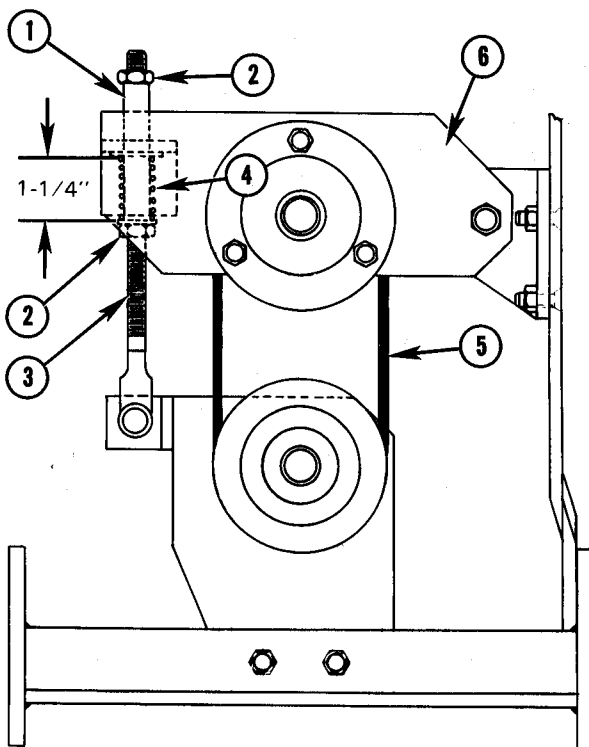
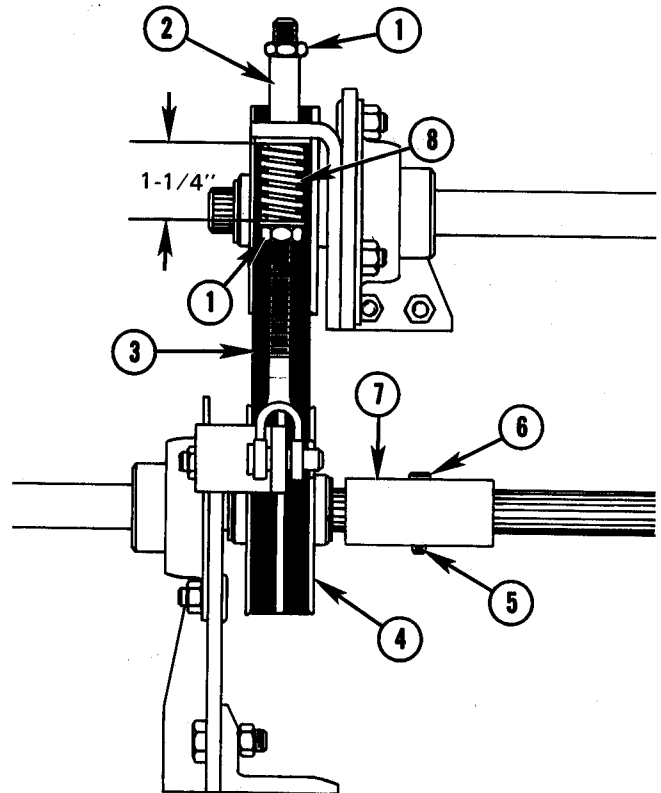

Fig. 27 — PTO Front Belt Adjustment — Rear View
Fig. 28 — PTO Front Belt Replacement
Proper tension of drive belts is when length of spring, No. 4, Fig. 27, is 1-1/4". Check measurement and if necessary adjust nuts, No. 2, until correct spring length is obtained (1-1/4"). (Also see Fig. 28.)
1. Loosen lower adjusting nut, No. 1, Fig. 28, lower upper pulley bracket, No. 6, Fig. 27, and remove belts, No. 5.
2. Remove cotter pin, No. 5, Fig. 28, and clevis pin, No. 6. Slide coupling, No. 7, rearward and remove belts, No. 3, from lower pulley, No. 4.